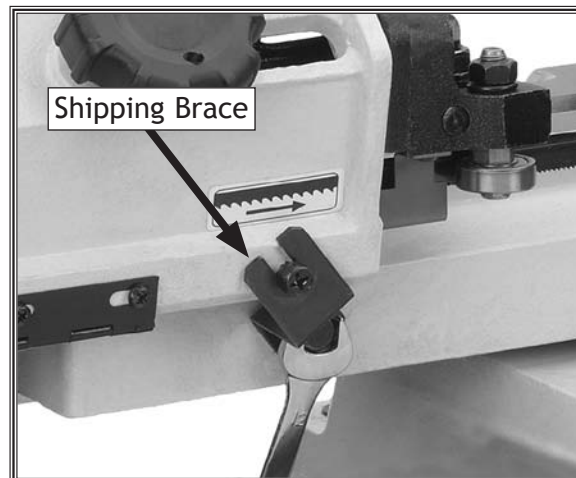

Figure 9. Removing shipping strap.
1. Remove the shipping strap hex bolt and strap with a 12mm wrench, as shown in **Figure 9**.